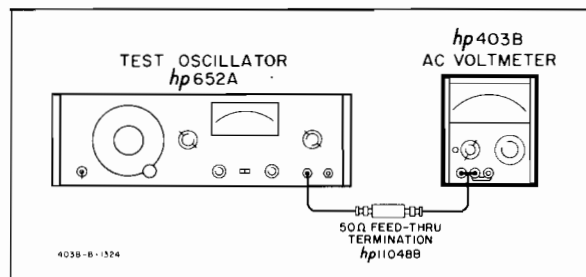

Figure 5-5. Frequency Response Setup.
a. Connect the 403B as shown in Figure 5-5.